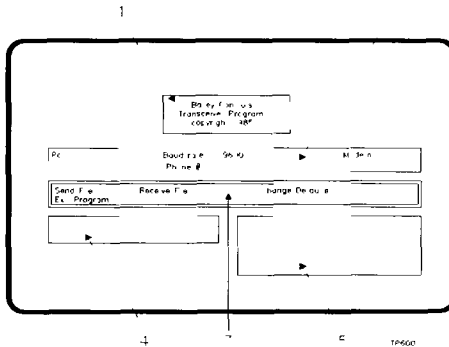

Figure 6 1 PC to PC Communications Screen
When PCPC starts, the screen is cleared and then it displays five formatted windows as shown in Figure 6 1
**The First Window (number 1 on Figure 6 1)**